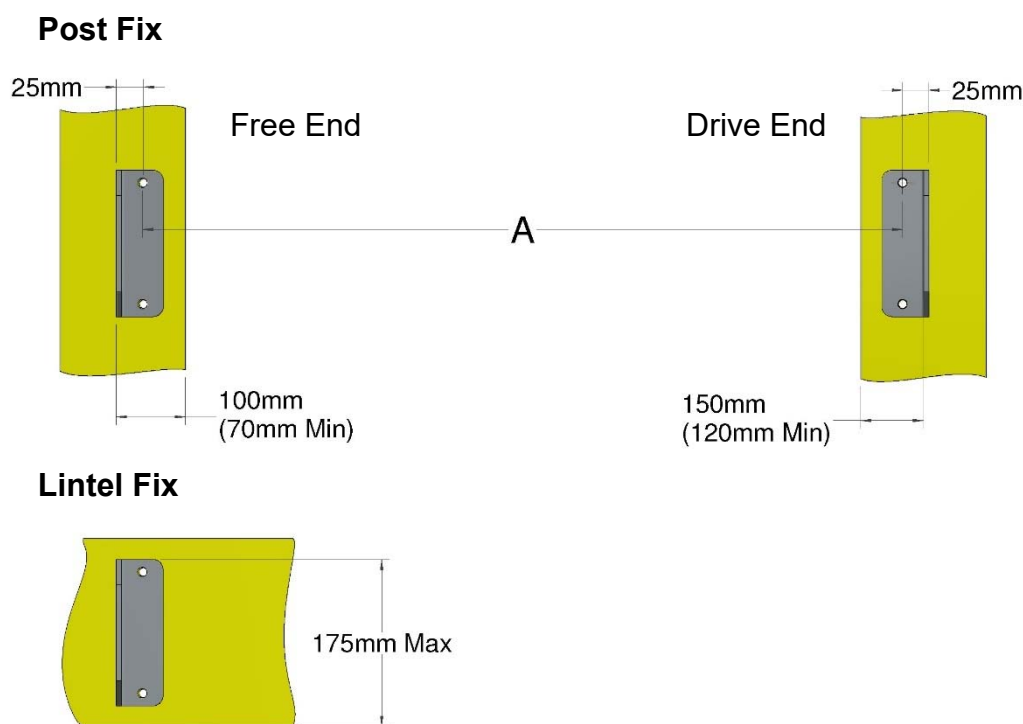

Figure 3, Top Bracket Positioning
2. Using the yellow template (R1), drill M8 holes for the two top brackets. The maximum recommended overlap for Post Fixing (Drive End) = 150mm, Post Fixing (Free End) = 100mm and for lintel fixing = 175mm (Figure 3). It is essential that the top brackets are level and upright.
<p>ATTENTION: To prevent abrasion and material fray, maximum overlap between bracket face and edge of fixing must not exceed that shown in Figure 3. If overlap exceeds these recommendations ensure there are no sharp objects on the building to damage the material, and rough surfaces such as concrete is protected with PVC strip or similar.</p>